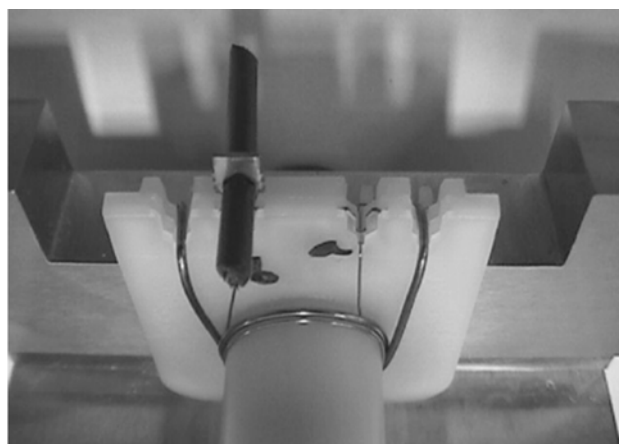

Figure 6
4. Lower the arbor frame ram until the tool tip bottoms on the connector housing. See Figure 6.
3. Place the insertion tip over the terminal and press downward until the repair tool actuates. Ensure that the tip bottoms on the connector housing for proper terminal placement into the housing cavity. See Figure 6.